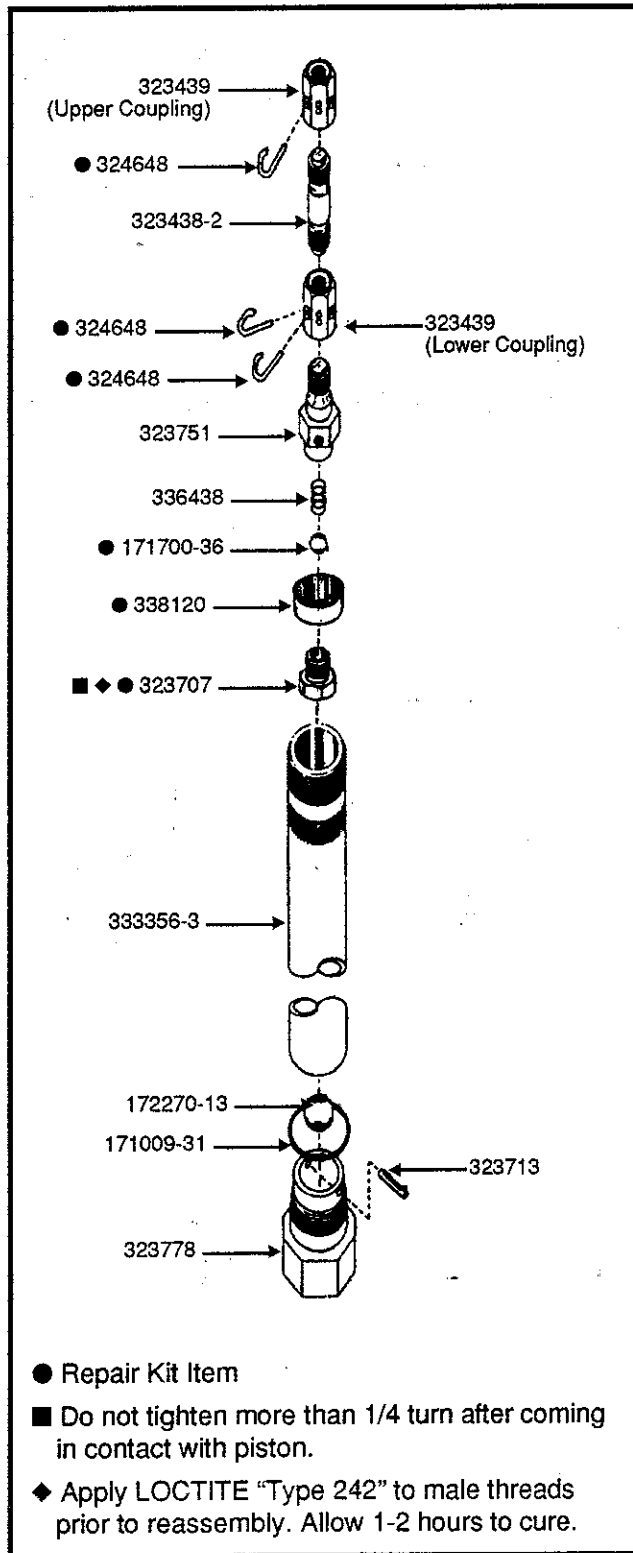
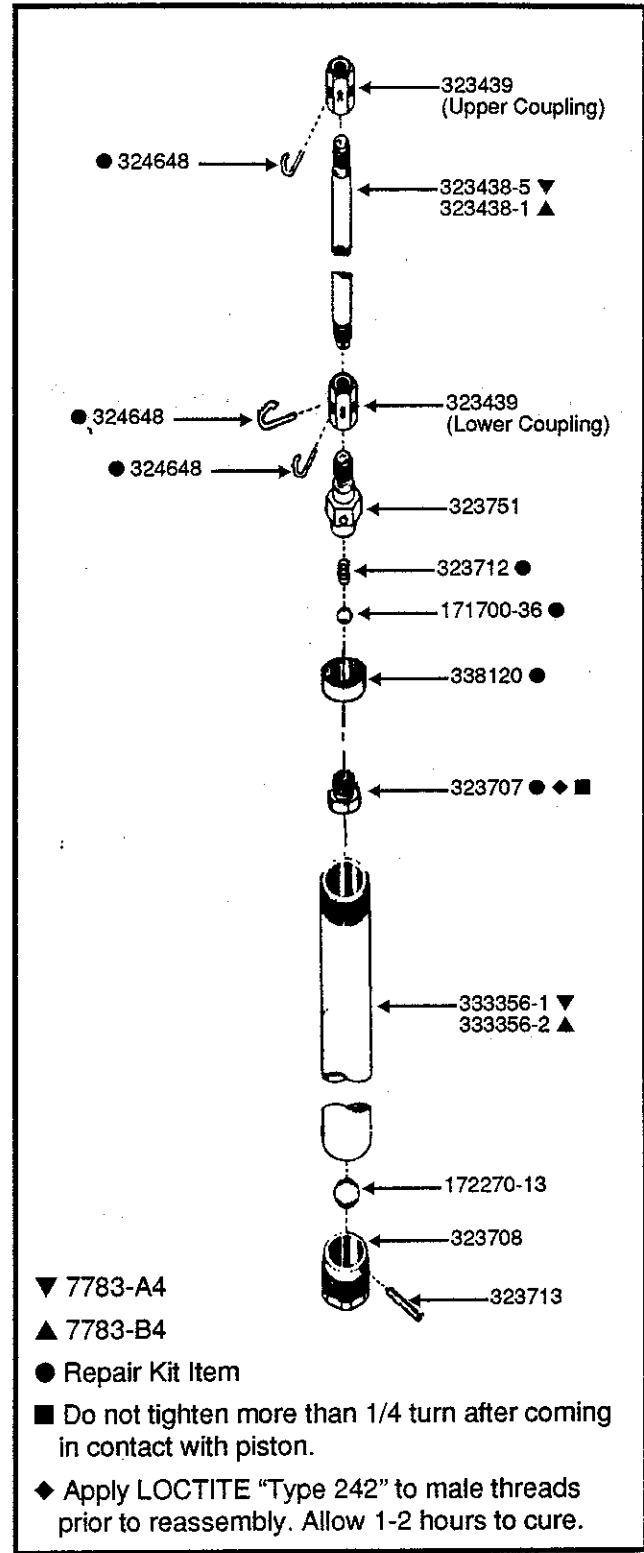

Figure 4: Pump-Tube Assembly for Model 7783-C4
Figure 5: Pump-Tube Assembly for Models 7783-A4 & 7783-B4
(Figures 4 & 5)
2. Grab upper coupling 323439 and pull upward until contents of pump tube is removed from cylinder 333356-1, 333356-2 (Figure 5) or 333356-3 (Figure 4).
3. Remove lower spring clip 324648 from upper coupling 323439. Unthread and remove upper coupling from rod 323438-2 (Figure 4), 323438-1 or 323438-5 (Figure 5).
5. Unthread and remove valve seat 323707 from adapter 323751. Remove piston 338120, ball 171700-36, and spring 336438 (Figure 4) or 323712 (Figure 5).
6. Gripping foot valve body 323778 (Figure 4) or 323708 (Figure 5), unthread cylinder from foot valve body.
Remove "O" ring 171009-31 from foot valve body (Figure 4).
**PARTS LIST - Pump Tube Assembly (Model 7783-C4, Figure 4)**